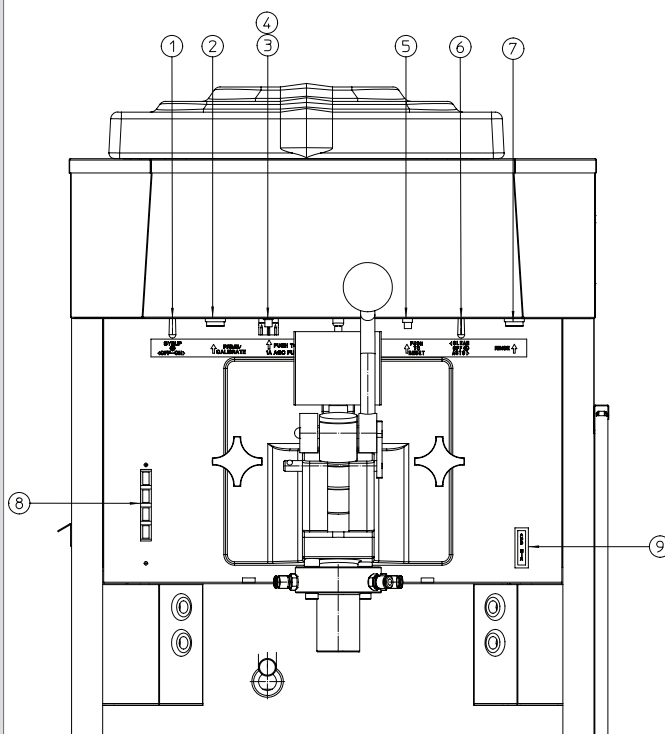

Figure 11-6
Turn syrup system switch to the "ON" position. (see figure 11-6, item 1)